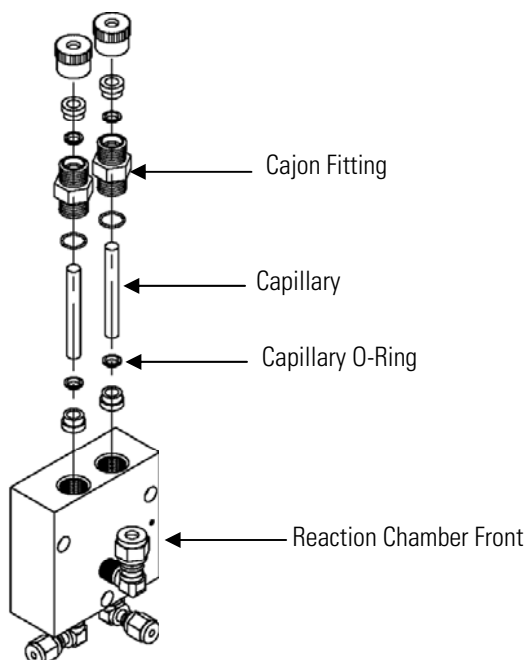

Figure 5–1. Inspecting and Replacing the Capillaries
3. Locate the capillary holders. See Figure 5–1 and Figure 7–2.